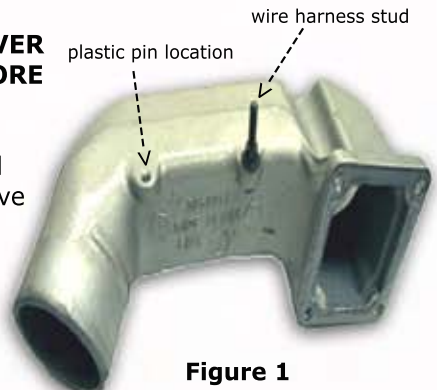

Figure 1
2.) Remove the nut and washer that mounts the wiring harnesses on the back of the stock intake and save for reuse. If your truck model has it, remove the heater block wire harness by pulling out the plastic pin. See Figure 1. Gently push the wiring harnesses away from the stock intake.
7.) Before proceeding, remove the wiring harness stud bolt from the back of the stock intake for installation on the CFM+ intake. Refer to Figure 1.